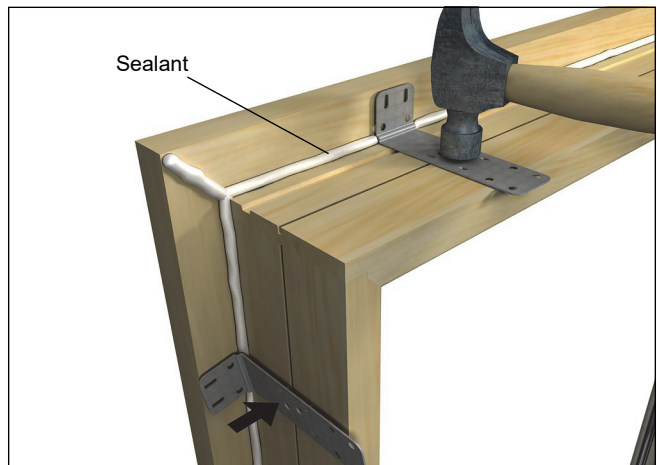

Figure 4 Wrap style bracket shown.
3. When using wrap style brackets pound onto the frame. See figure 4.